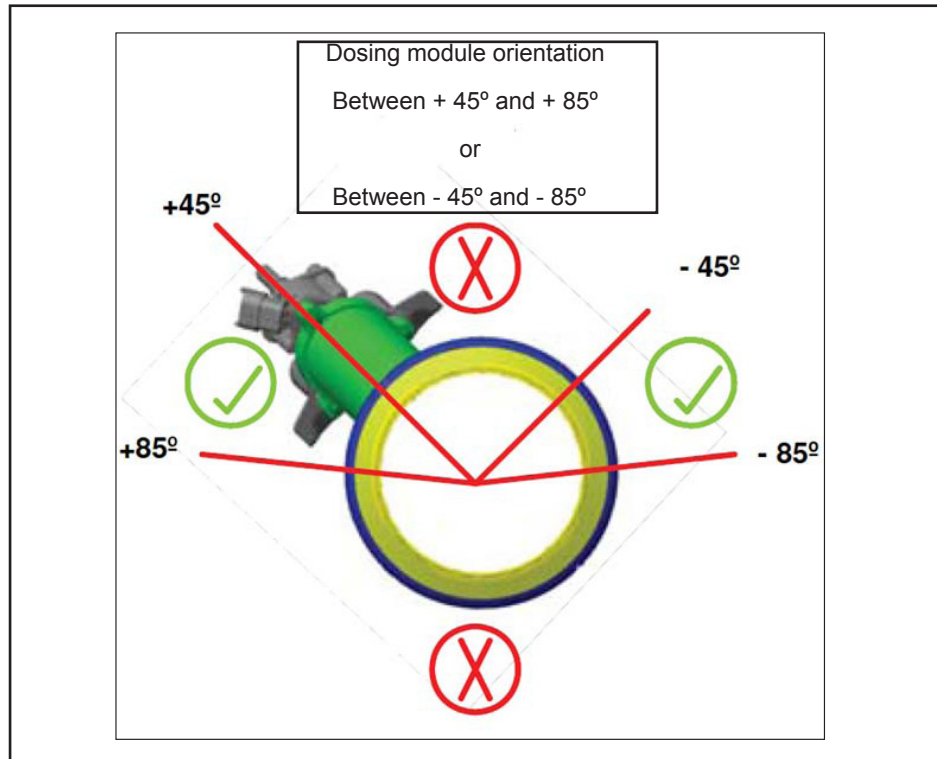
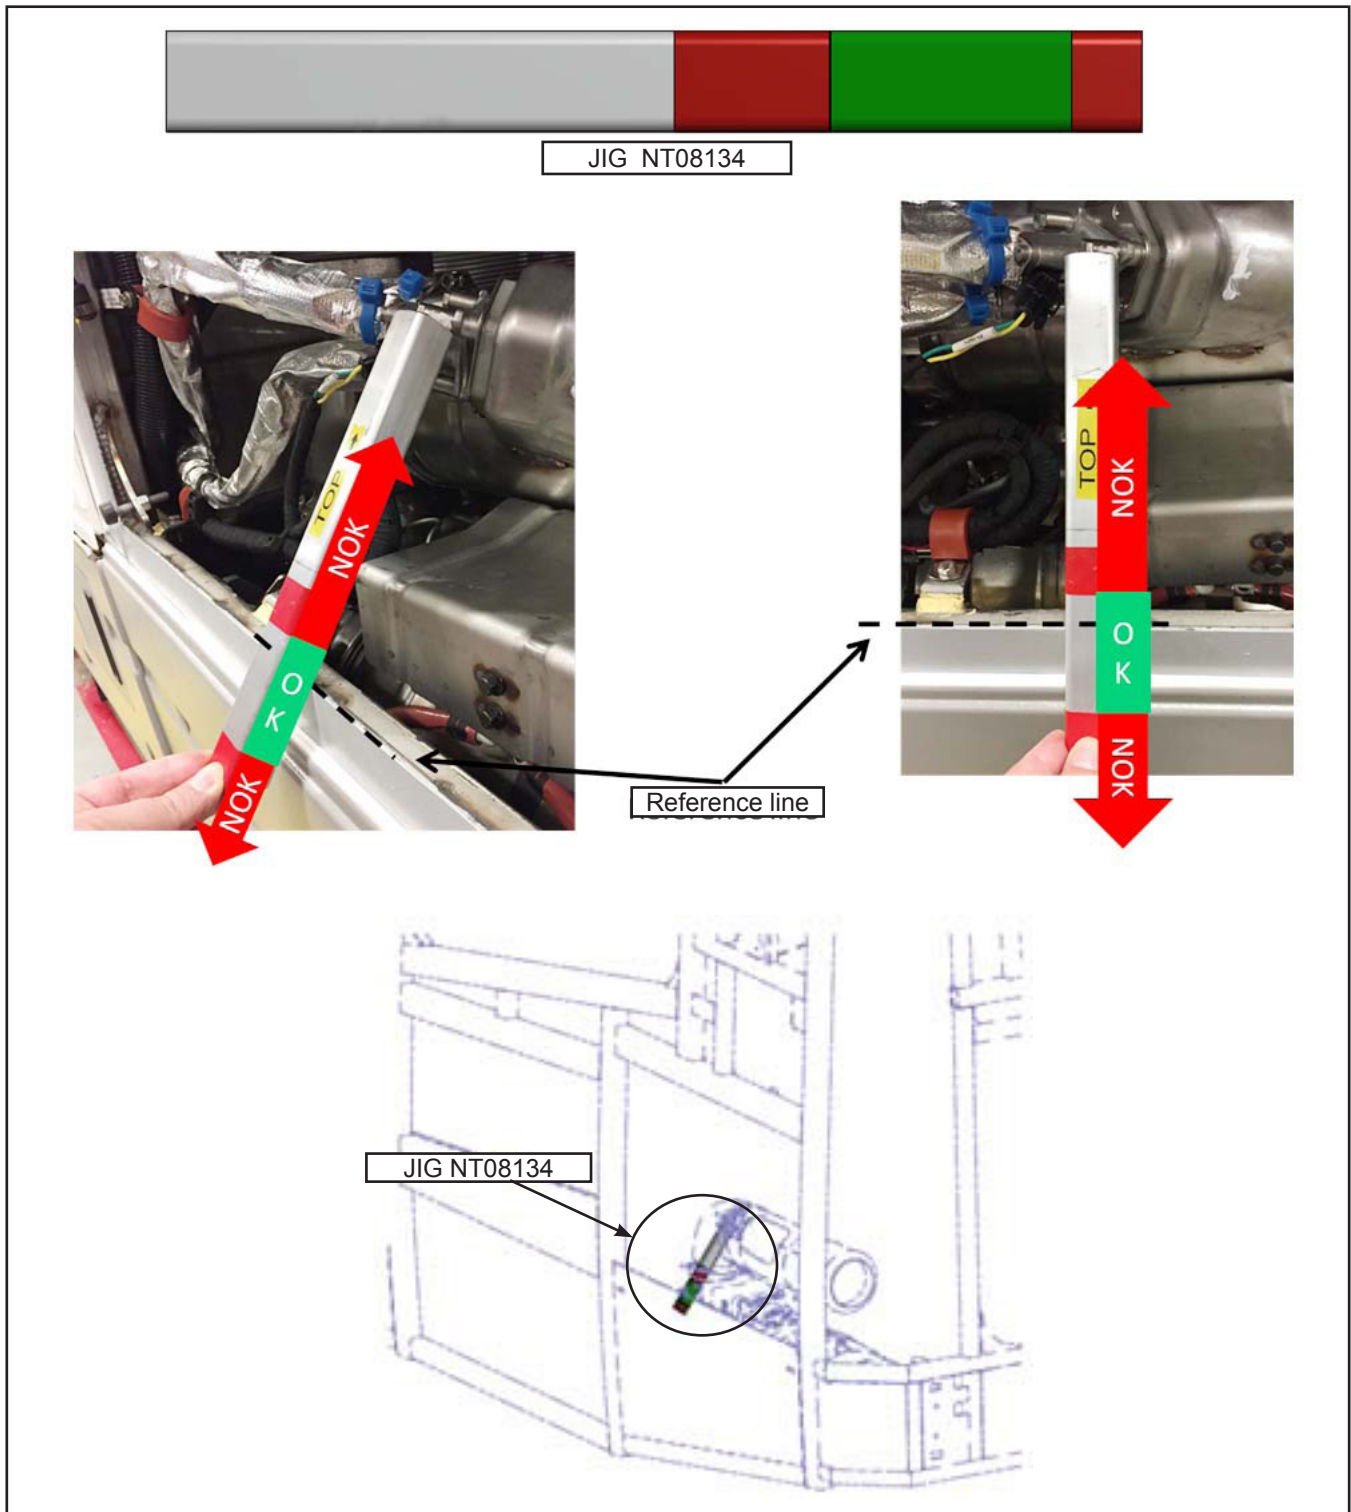

Figure 4 - Verify the angle of the dosage module
Figure 5 - Adjust the angle of the dosage module
- 1.5. Verify that the angle of the dosage module is between 45° and 85° w.r.t. its vertical axis. The ideal angle is 54° (see Figure 4).
- 1.6. Adjust the dosage module angle using the jig NT08134 as shown (see Figure 5) to obtain an angle specified (see Figure 4).